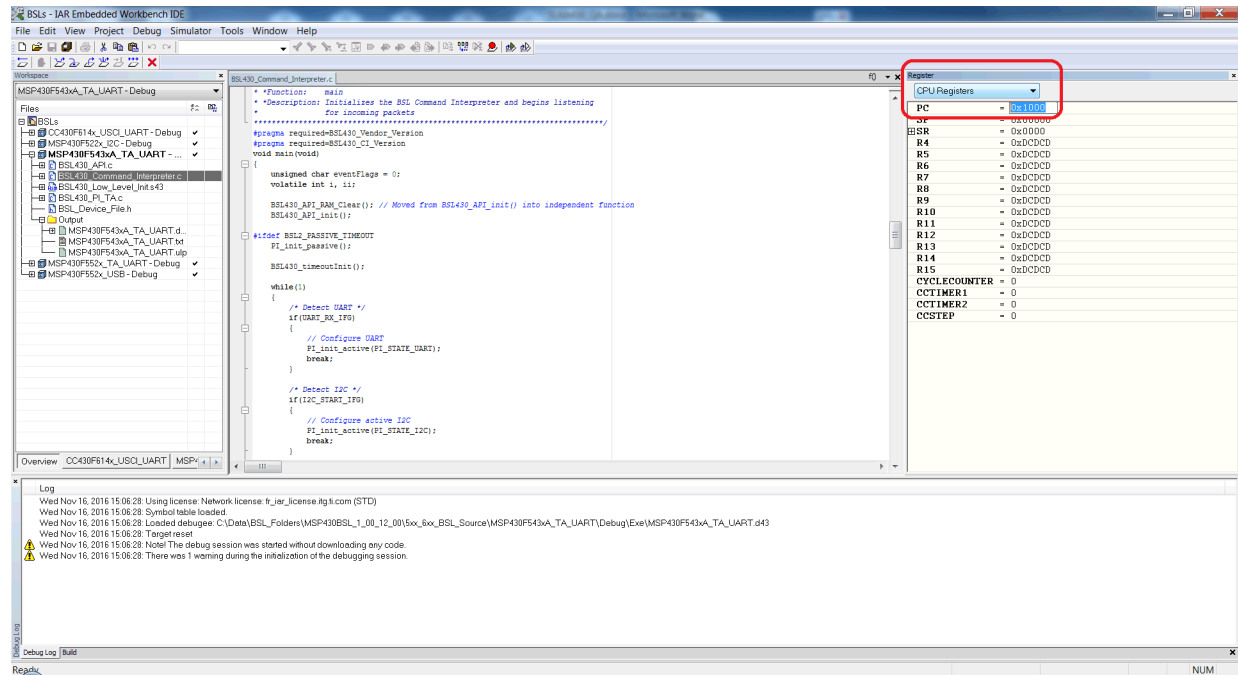

Figure 11. Set the PC to the Location of BSL
- d. Open the Register View, and manually set the PC to 0x1000, which is the entry location of the BSL (see Figure 11).